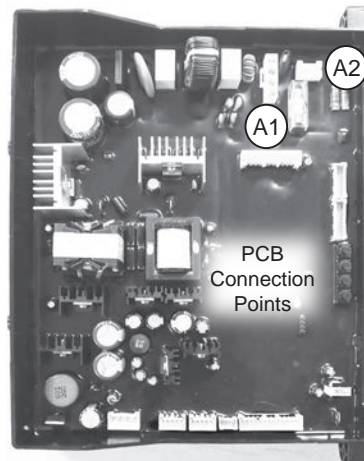

Figure 46 - Disconnecting PCB wiring
- 5 Gently slide PCB out from water heater enough to access wiring harnesses A1 - A2. See Figure 46.
- 6 Using Figure 46 as reference, disconnect the wiring harnesses A1 and A2 from the PCB.